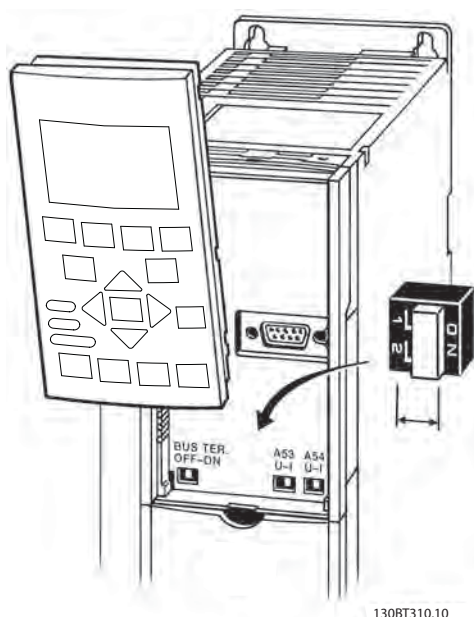

Figure 2.36 Location of Terminals 53 and 54 Switches
- The switches are accessible when the keypad has been removed (see *Figure 2.36*). Note that some option cards available for the unit may cover these switches and must be removed to change switch settings. Always remove power to the unit before removing option cards.